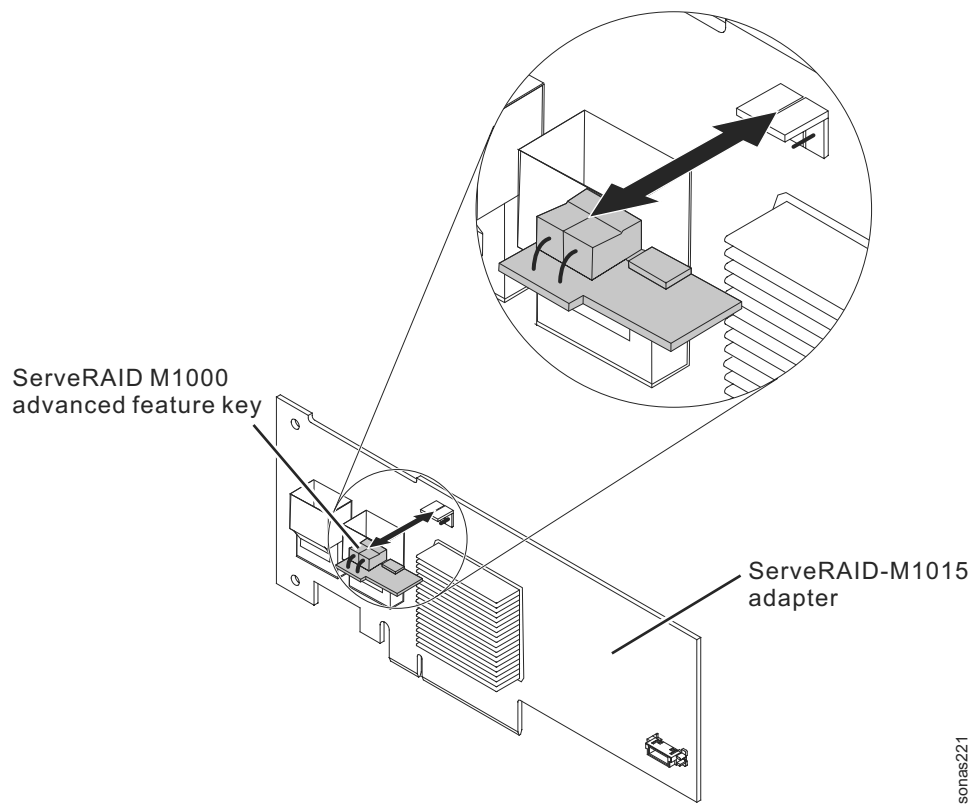
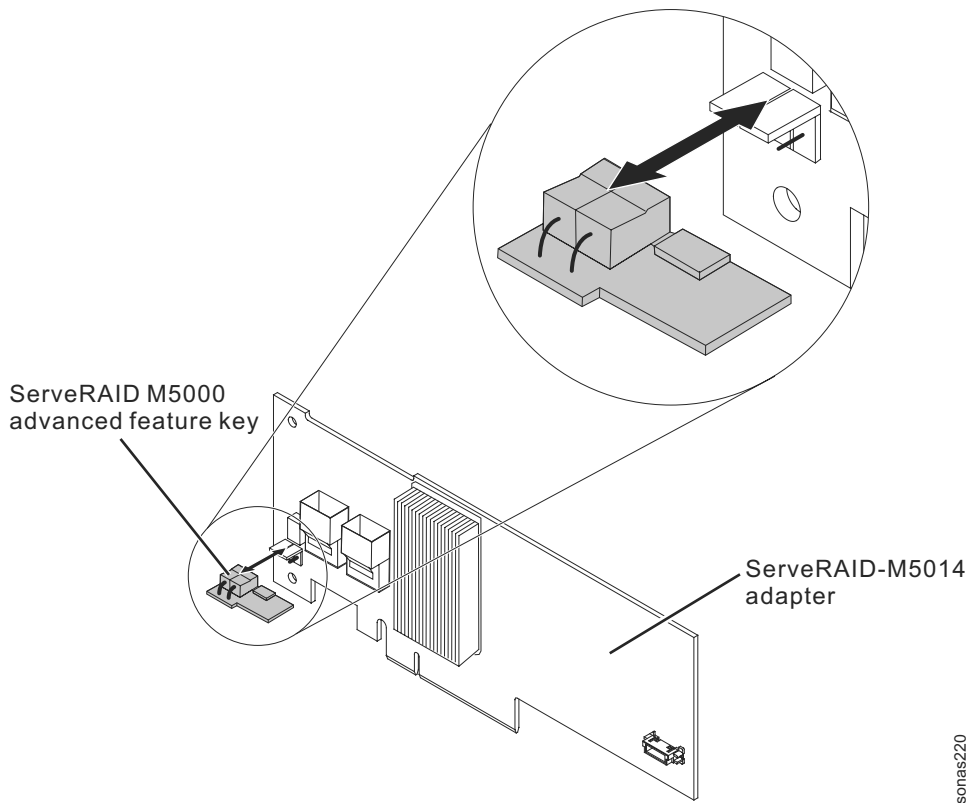

Figure 29. ServeRAID M1000 advanced feature key and M1015 adapter
Figure 30. ServeRAID M5000 advanced feature key and M5014 adapter
4. Grasp the feature key and lift to remove it from the connector on the ServeRAID adapter. See Figure 29 and Figure 30 on page 118.